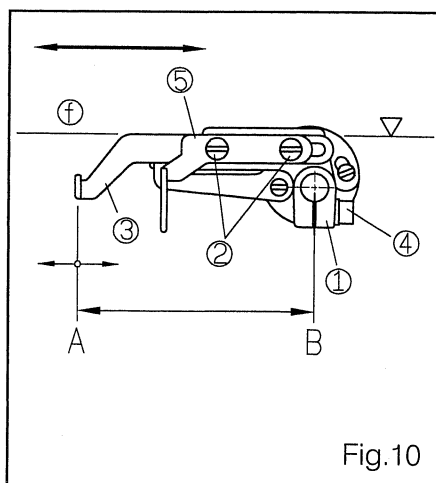

Fig.10
1. When the needle bar move to the lowest position, the top edge of the needle thread take-up (1) should remain horizontal. To adjust the position of the take-up, loosen the screw (4) first. (Fig.10)
2. Loosen screw (2) and adjust the distance between point A and B about 75mm, then fasten screw (2) tightly.